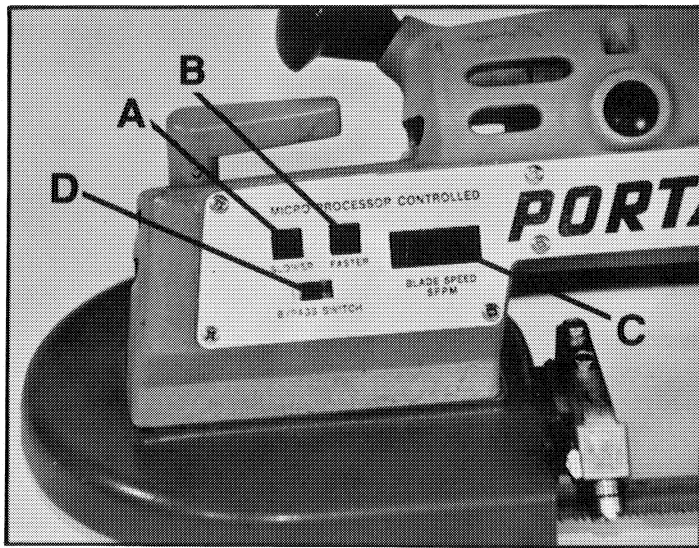

Fig. 2
The Micro Processor Control is located as shown in Fig. 2. A number of operating speeds in 10 SFPM (surface feet per minute) increments are available by pressing the buttons marked "Slower" (A) Fig. 2, or "Faster" (B) Fig. 2.
When the power plug is connected to the power source, "160" appears in the read-out display marked "Blade Speed SFPM" (C) Fig. 2. Each press of a button increases or decreases the speed by 10 SFPM through a range from 80 to 240 SFPM. The desired speed may be set prior to turning the saw "On", after connecting power plug to power source, or any time while the saw is running.
A bypass switch (D) Fig. 2 is provided to bypass the Micro Processor control. When this switch is towards the handle of the saw "0" will appear in the readout display. When the trigger switch is squeezed, "240" will appear in the display. As the saw cuts and a load is applied against the blade, the readout will display the speed of the blade as it slows below 240 SFPM.